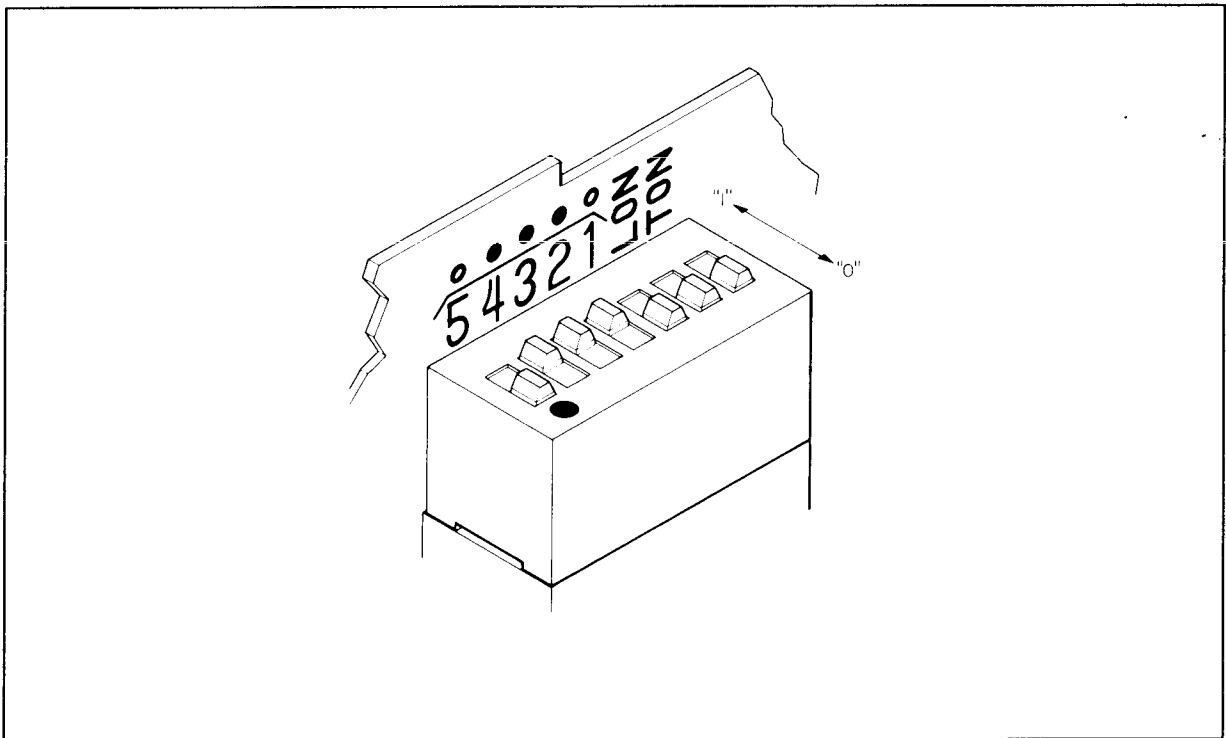

Figure 2-2. The HP-IB Address Switch Shown as Set by the Factory
In the Measuring Receiver, the HP-IB talk and listen addresses are selectable by an internal switch (Figure 2-2). This address can be read by selecting BUS ADRS (Blue Key, LOCAL). The following procedure explains setting of the switches. Refer to Table 2-2 for a listing of the talk and listen addresses. In the factory, the address is set for a talk address of "N" and a listen address of "." (period). In binary, this is 01110; in decimal it is 14.
5. Use a pencil to set the switches to the desired HP-IB address and Talk Only (TON) or Listen Only (LON) condition. The switch is illustrated in Figure 2-2. Facing the board, the left hand switch (marked with a "5") is the most significant address bit (A5 in Table 2-2). Setting a switch toward the printed circuit board places it in its "1" position. If the TON and LON switches are both set to "1", the Talk Only setting will override. If the address switches and the TON switch are all set to "1", the Measuring Receiver will output one byte (the status byte) each measurement cycle. (Setting all switches to "1" defeats HP-IB operation.)